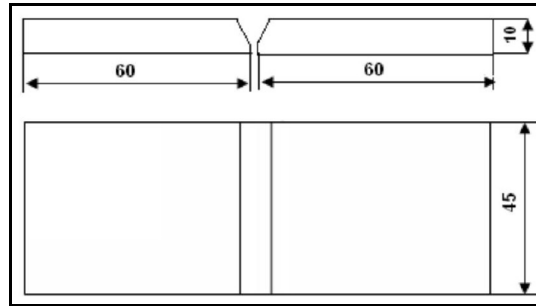

Figure 5.1. V Butt Joint 1
- Required size of the nozzle is selected and it is fixed to the torch using Figure 5.1.